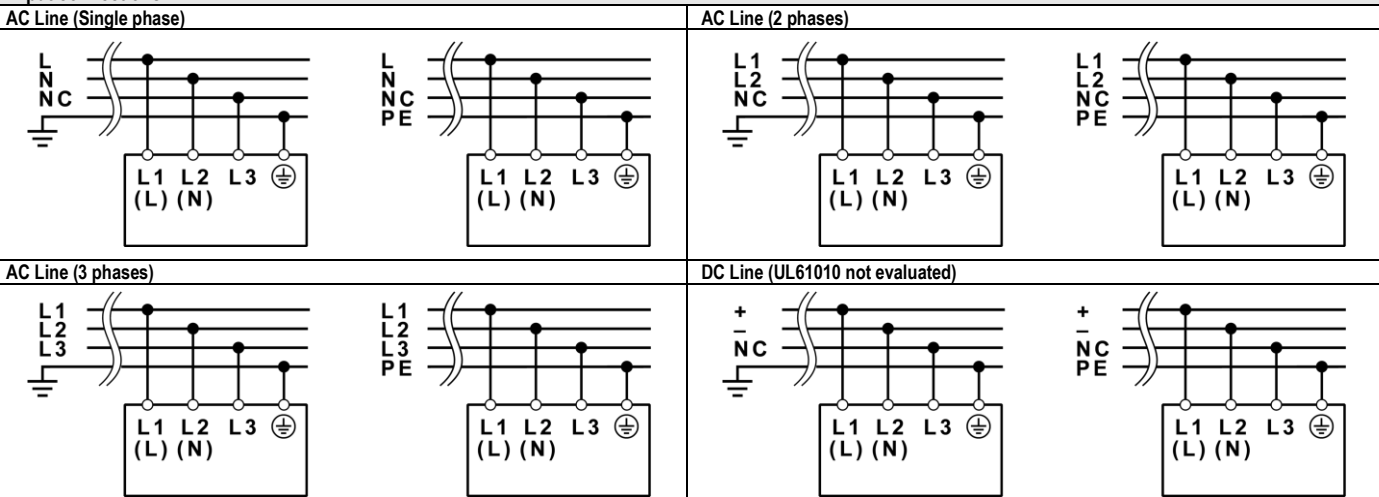

Fig.8
- 2) Installation:** use DIN-rails according to EN60715. Installation should be made vertically (see Fig.4). For better device stability fix the rail to the wall close to the point where the device is to be mounted. In order to guarantee sufficient convection, we recommend observing a minimum distance to other modules (see Fig.3). The device is provided with a thermal protection; a limited air flow can cause the thermal protection tripping. The SMPS automatically restarts after cooling. To get normal operation reduce the temperature of the air surrounding the power supply, increase the ventilation or reduce the load (see Fig.8).
- 9) Output protection:** the device is protected against overload (OL) / short circuit (SC) / overvoltage (OV) / overtemperature (OT). **OL and SC:** are controlled by a hiccup mode auto-reset protection with the following behaviour: **OL behaviour:** Max. OL = $I_n \times 1.5$ with constant output voltage for max 5s. If the current is $\geq I_n \times 1.5$ the unit enters the OL protection and starts an ON/OFF cycle (hiccup mode). **SC behaviour:** the device supplies the indicated short circuit peak current for 250ms if the output current exceeds $I_n \times 1.5$ the device enters into a controlled ON/OFF cycles (hiccup mode). The output voltage drops to a voltage value depending on the impedance of the failed load circuit. **Output OV circuit protection:** the output is protected against potential OV due to internal malfunction or coming from the load for $U_{out} \geq U_{nom} \times 1.2 - 1.3$, depending on the model. **OT protection:** turns off the device if the internal temperature exceeds a safe limit. The device restarts automatically after cooling down. To recover to normal operation reduce air temperature surrounding the power supply, increase cooling or reduce load (see Fig.8).